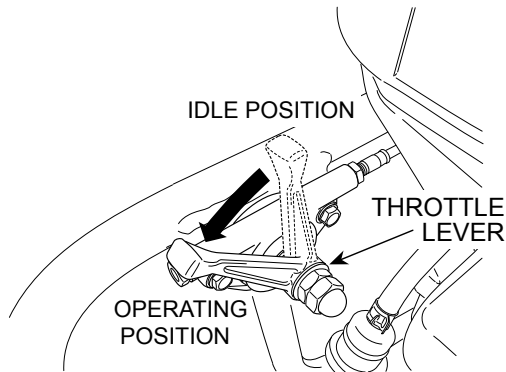

Figure 12. Throttle Lever (Operating Position)
1. To start the rammer tamping action, move the throttle lever (Figure 12) **quickly** from idle to the operating position. The rammer will start up and down motion. **DO NOT** move the throttle lever slowly as this may cause damage to the clutch or spring.